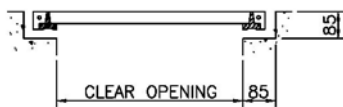

Figure 5 – Class B Rebate
1. Form the access pit and rebate to the size required. See Figures 5, 6 & 7 for the recommended rebate dimensions for the required load class.
To support the anticipated loads, the rebate must be cast according to Figures 5, 6 & 7. For covers with decorative edging add the height of the edging to the recommended rebate depths. The dimensions shown are the recommended minimum amount of concrete required to fully support the frame. Reinforcing may be required in the rebate under the frame. The reinforcement should be installed to the engineer's details.
For these applications, keyhole bosses will also have extensions to match the height and material finish of the decorative edge. The top of the decorative edge corresponds with the finished floor level of the cover. Ensure that the rebate has been formed with an allowance for the relevant height extensions (refer to Figures 5, 6 & 7 for standard rebate dimensions).